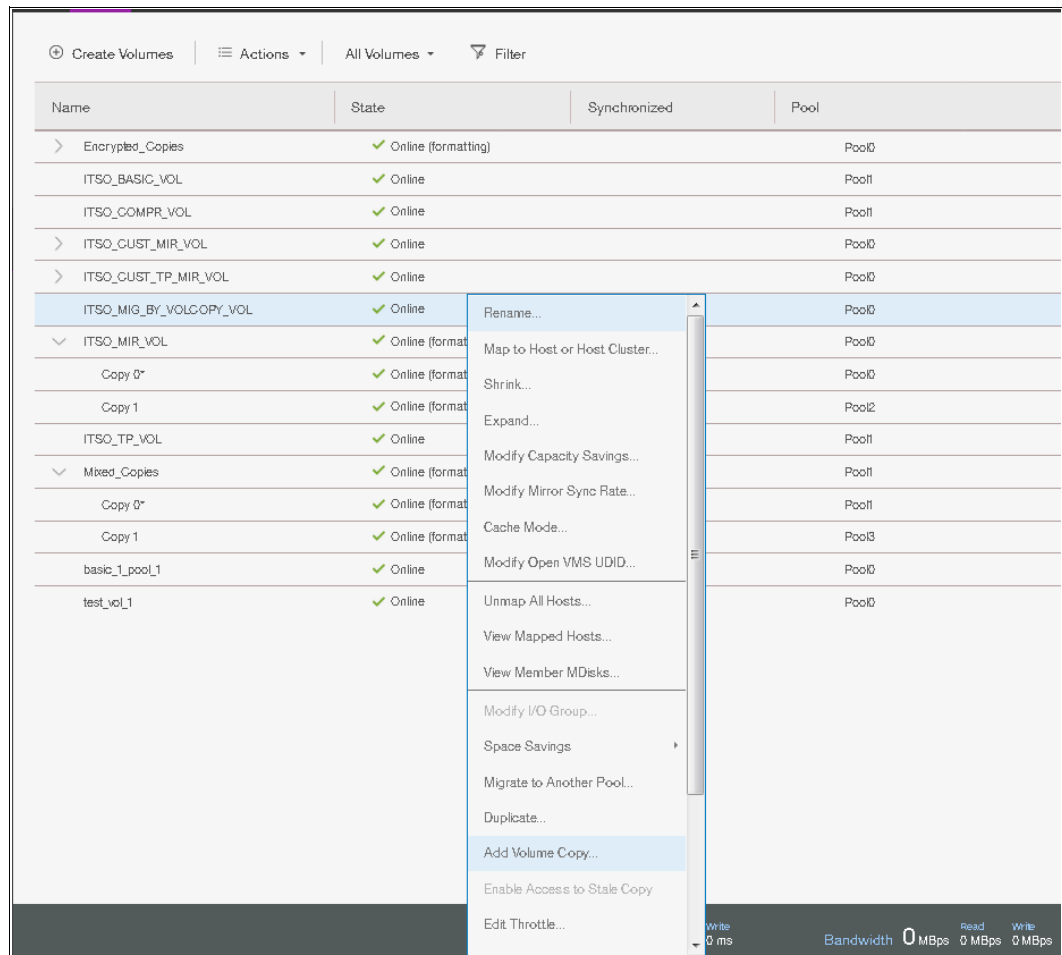

Figure 6-58 Adding the volume copy to another pool
1. Select the volume and select **Add Volume Copy** operation as shown in Figure 6-58 on page 314.